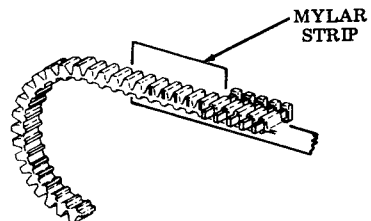

Fig. 75
- Make sure forms are loaded in front of the mylar strips on both sides (Fig. 75).